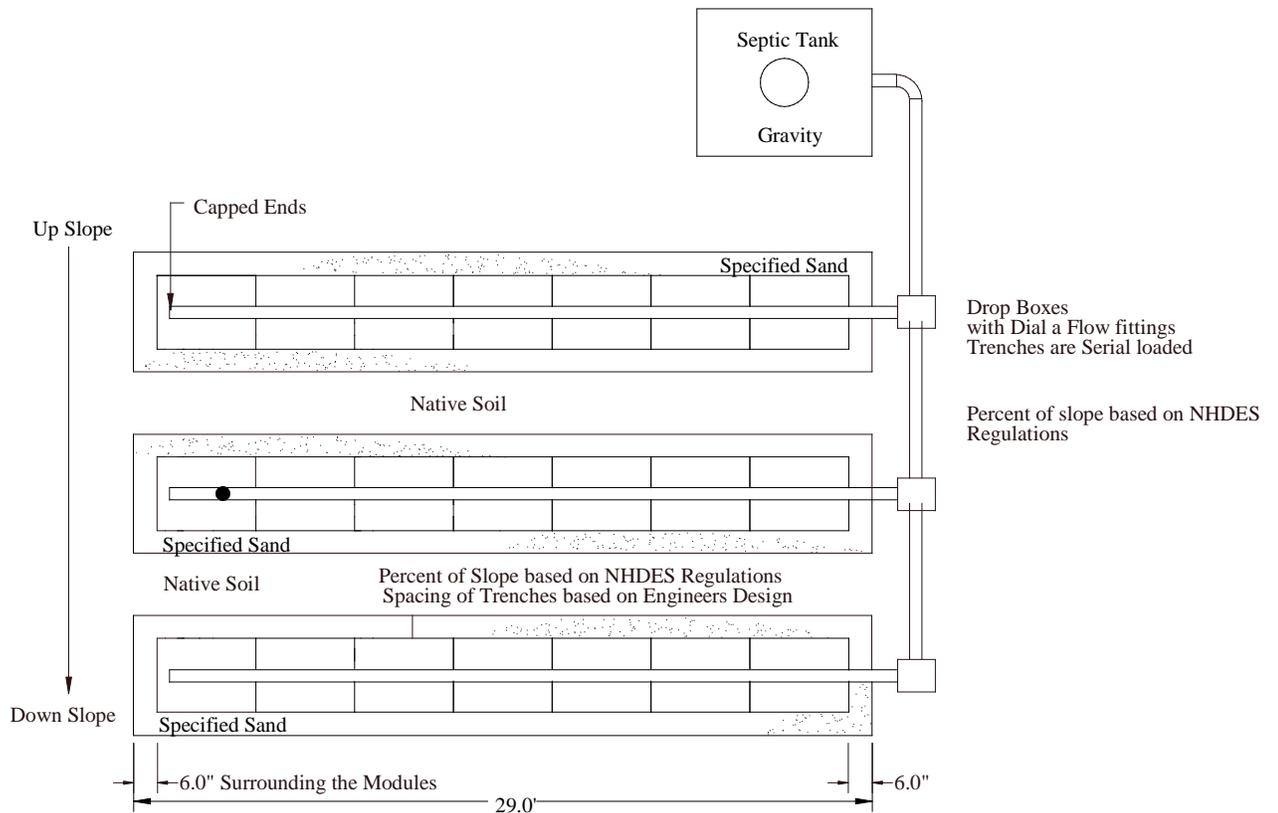

FIGURE 12: SEQUENTIAL LOADING OUTLET SETUP IN DROP BOX
9. Septic tank effluent flows to a Drop Box placed at the beginning of the upper most trench. One pipe from this Drop Box is plumed along the length of the upper row of GSF modules. The second pipe is an (overflow pipe) and is connected to the next lowest Drop Box. The invert of the Dial a flow opening must be rotated so that it is above the invert height of the pipe loading the GSF modules. This procedure will ensure the upper trenches are utilized prior to flowing to the next down slope trench. This process is duplicated until reaching the lowest trench in the sloped system which does not require Dial a flow adapters or an over flow pipe. See Figure 12.